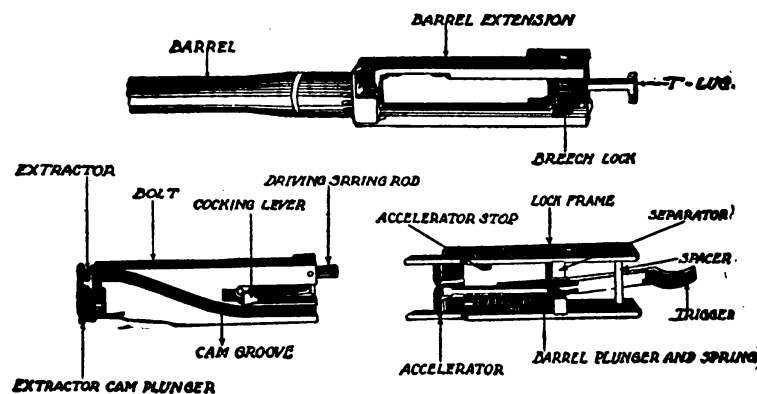

FIGURE 184.—Barrel extension, bolt, and lock frame groups.
Q. Point out and state the uses of the important parts shown in figure 184. A. See figure 184.